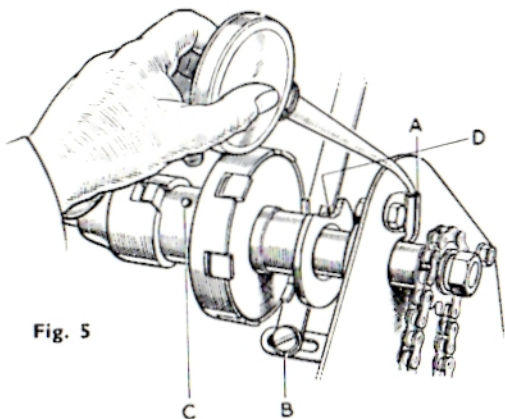
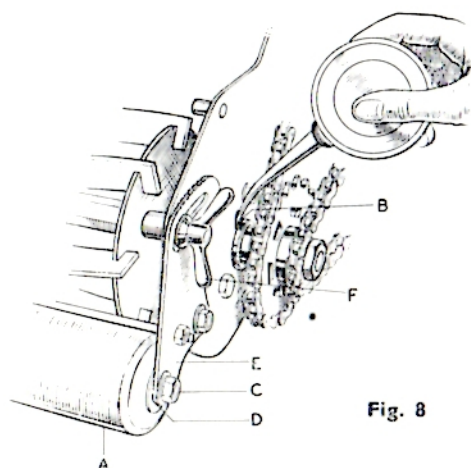
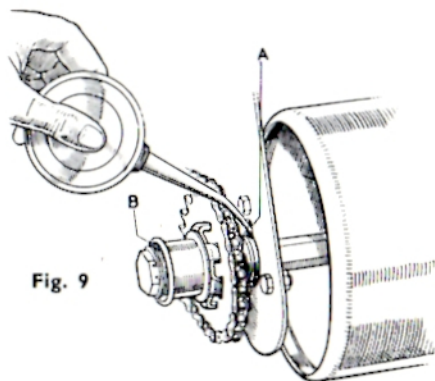

Fig. 5
Fig. 8
Fig. 9
Place a drop of oil between the pad on the clutch operating lever and clutch withdrawal collar (D, Fig. 5) weekly. This will ensure that the machine will draw backwards freely.
- (b) Between the front rollers (A, Fig. 8) and on the shaft at each end. From time to time the front rollers and shaft should be removed, thoroughly cleaned and lubricated. This has been designed as a quick and simple operation. Remove nut and washers (C, Fig. 8) at either end of the roller shaft, which can then be slipped off through the slot (D, Fig. 8) in each front roller bracket (E, Fig. 8). Remember to replace the washers between rollers during re-assembly.
- (c) Clutch shaft bearing through tube (A, Fig. 5) provided. Cutter shaft bearing (B, Fig. 8) and rear roller shaft bearing (A, Fig. 9) through slot in side frame located between chainwheels and sideframe.
- (e) Sliding member of roller drive release. (B, Fig. 9).
- (f) Clutch pivot pin. (B, Fig. 5).
- (a) Oil hole in clutch outer member boss (C, Fig. 5).
Adjust the clutch while the clutch operating lever is in the "IN" position. Undo the nut securing the pivot pin (B, Fig. 5) and move the lower end of the clutch operating lever along the slotted bracket, in which the pivot pin operates, until there is approximately $\frac{1}{2}$ inch of free
Height of Cut (by front rollers A, Fig. 8).
Slacken off wing nuts (F, Fig. 8), one on each side of machine, and raise rollers slightly for a shorter cut and lower slightly for a longer cut. Tighten nuts firmly.